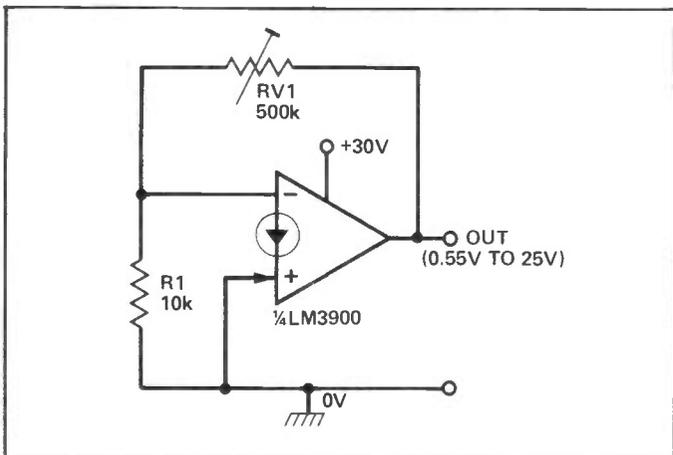

Figure 22: Simple variable-voltage reference.
**Figures 22** to **26** show various ways of using LM3900 op-amps as simple voltage regulators and references. The **Fig. 22** circuit is a simple but useful variable-voltage reference. The non-inverting terminal of the op-amp is disabled, and the circuit uses the  $V_{be}$  potential of the inverting terminal as a reference, and has a voltage gain determined by the RV1-R1 ratio. When RV1 is set to zero, the circuit gives unity gain and gives an output of 0.55 volts. When RV1 is set to maximum value, the circuit has a gain of  $\approx 50$  and gives an output of about 25 volts.